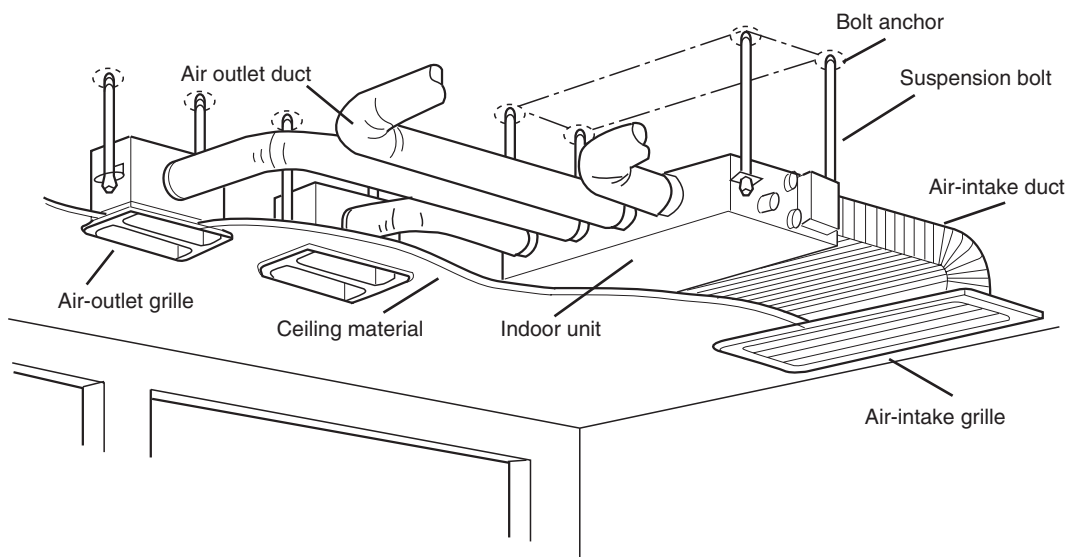

Fig. 1-73
- Fig. 1-73 shows an example of installation.